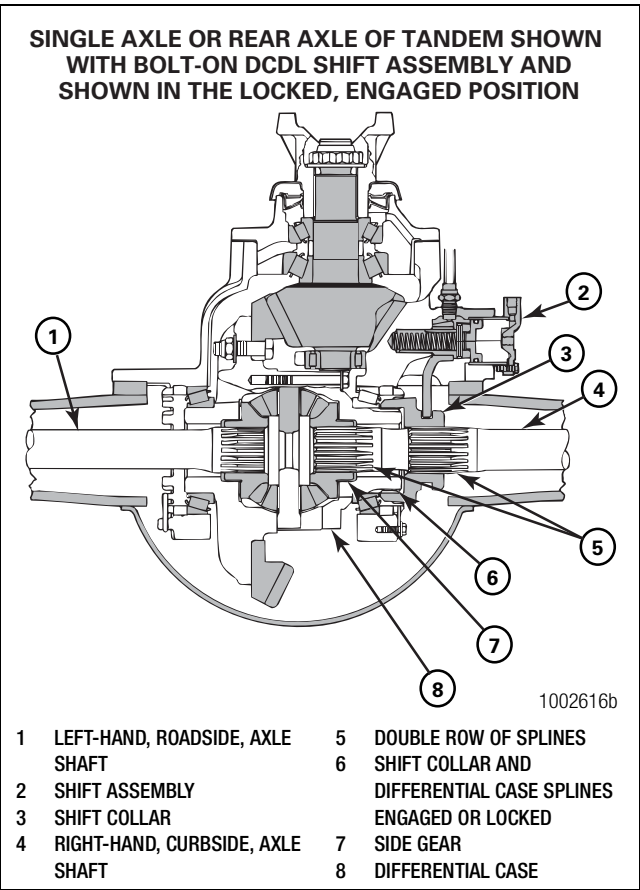

Figure 11.10
- 5. Install the axle shaft(s) indicated in Table AK. Axle shafts with a DCDL have a double row of splines that engage with the splines of the side gear and shift collar in the differential case. Figure 11.10. Continue with Step 6.